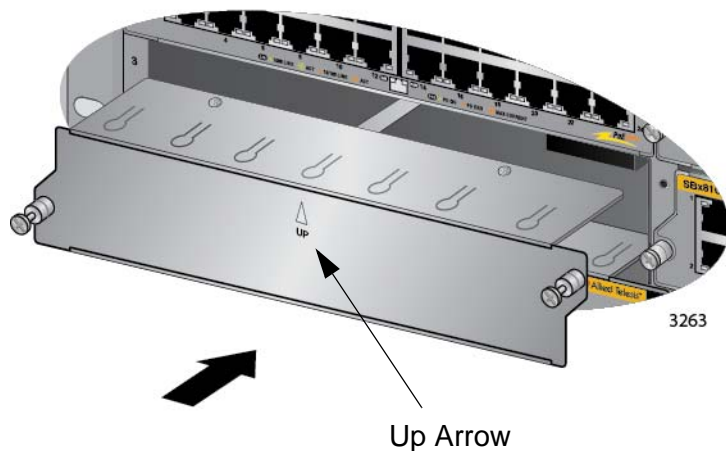

Figure 73. Installing a Blank Slot Cover
1. Position a blank slot cover over an unused slot, as shown in Figure 73. The up arrow on the panel must be pointing up.